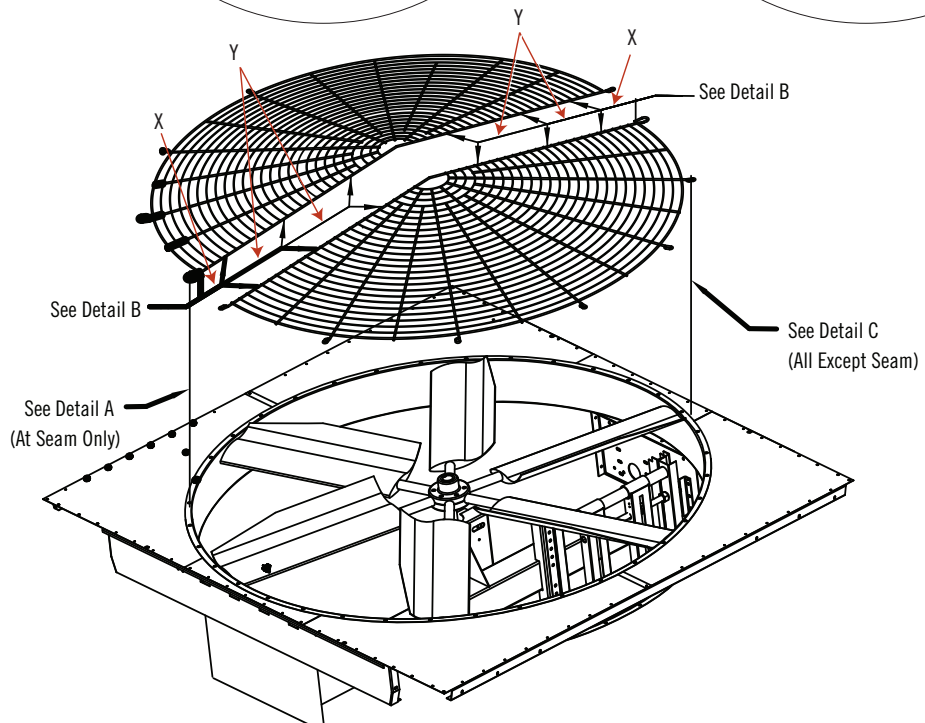

Figure 2. Two-Piece Fan Guard Assembly
NOTE: For X and Y dimension locations, refer to **Figure 2**.
1. Using six U-bolt assemblies, fasten the two halves of the fan guard together as illustrated in **Figure 2, Detail B**. Locate the U-bolt assemblies along the seam between the two guard halves per the X and Y dimension provided in **Table 2**, which are based on the diameter of the supplied fan.
3. Mount the fan guard to the unit as illustrated in **Figure 2, Detail A** for the ends of the seam where the two guard halves join together, and **Detail C** for all other locations around the fan guard perimeter.